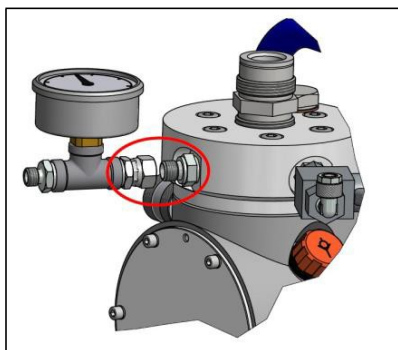

Fig.8.2.4
3. (Fig.8.2.4) Securely attach the pressure gauge combination over the connection nut to the valve block.